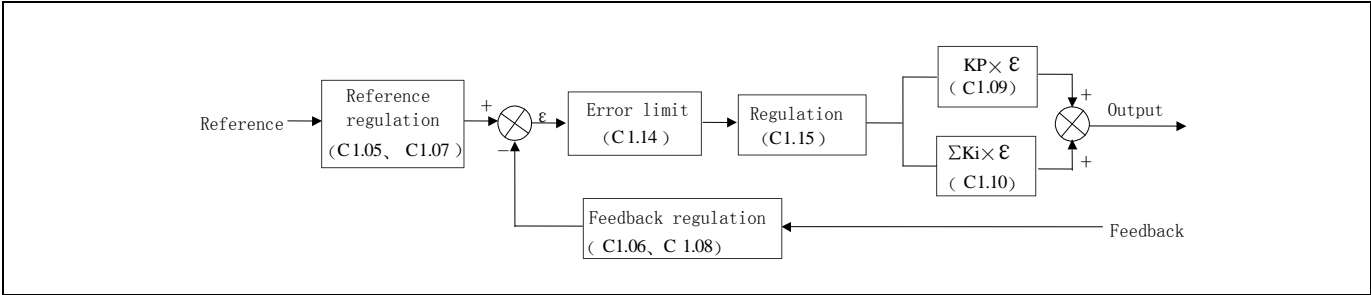
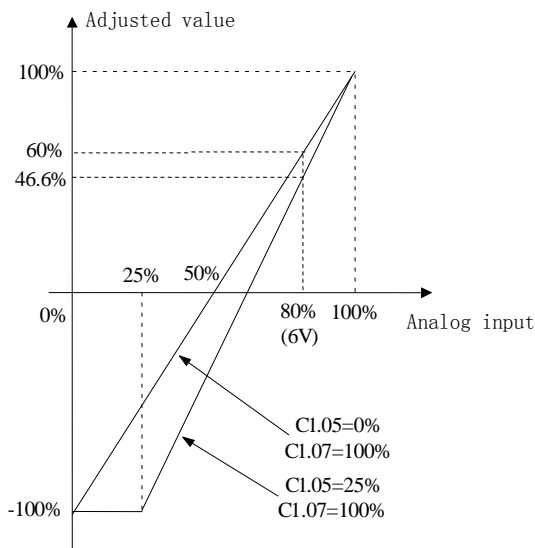

Fig.6-41 Principle diagram of process close-loop control
Fig.6-43 Regulation curve of reference
Operating principles of internal process close-loop of FV100 is shown in the Fig. 6-41
In Fig. 6-41, refer to C1.00~C1.14 for the definitions of close-loop reference, feedback, error limit and proportional and Integral parameters.
The regulation relationship between C1.05,C1.07(in Fig.6-41) and reference is shown in Fig.6-43.When the analog input 6V,if C1.05=0% and C1.07=100%, then adjusted value is 60%.If C1.05=25% and C1.07=100%, then the adjusted value is 46.6%.
1. Fig.6-43,0%~100% in X axis is corresponding to analog input -10V~10V,10V of analog input is corresponding to 100%,and-10V is corresponding to 0%,6V is corresponding to 80%.
The regulation relationship between C1.06, C1.08(in Fig.6-41) and feedback is similar to reference regulation.Its adjusted value can be observed in d0.25.